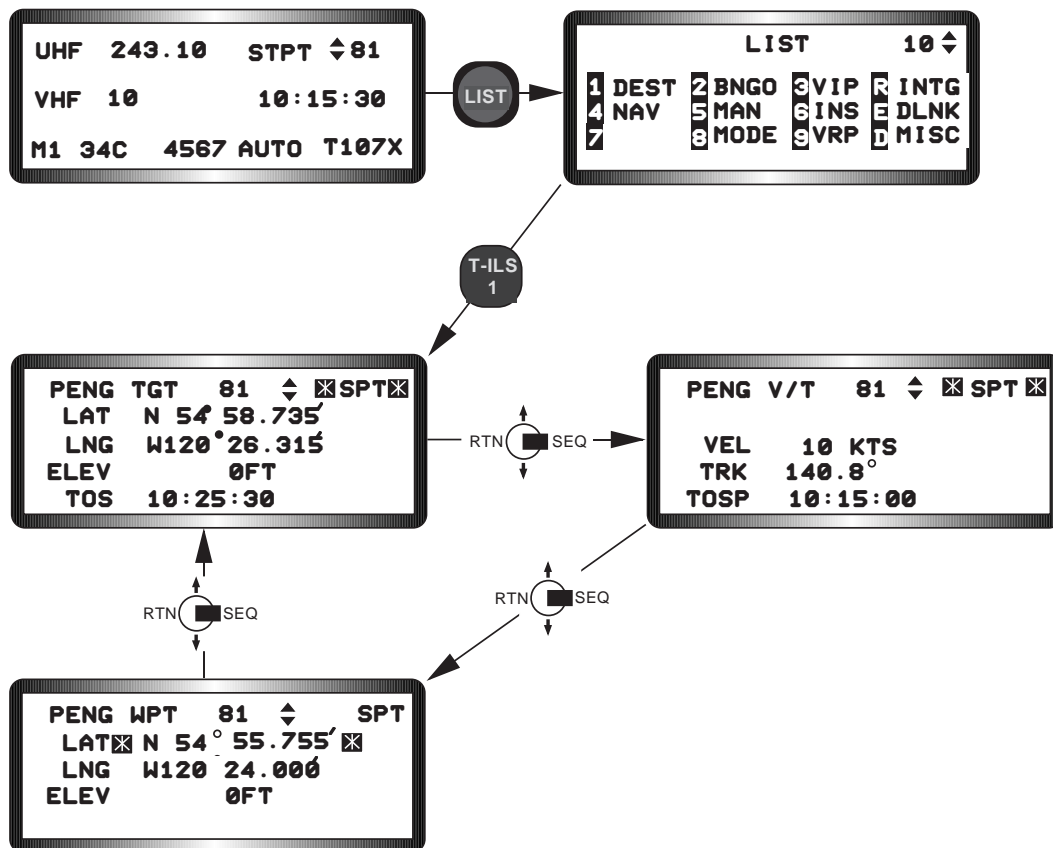

Figure 6-35 Penguin DED Pages
**Delivery Mode Selection.** The Penguin may be employed using one of three delivery options: Radar (RDR), HUD Direct (HUDD), and HUD Turn (HUDT). The delivery option may be selected or changed by depressing OSB 2 on the Penguin SMS or WPN page or by depressing the Z-axis of the cursor enable switch. The rotary sequence is RDR—HUDD—HUDT—RDR. The selected Penguin delivery option and corresponding mnemonic is displayed at OSB 2 on the Penguin SMS or WPN MFD page and in window 8 of the HUD (Figure 6-35). When the HUDT option is selected, OSB 20 on the SMS and WPN formats transitions from a blank condition to display a LEFT or RIGHT mnemonic. The mnemonic depicts the direction the missile will turn when reaching the HUD turn waypoint. Depressing OSB 20 toggles between the turn directions. Delivery mode selection is independent of the SMS or WPN page. If the delivery option is changed on one page it is automatically changed on the other.
**Waypoint Selection.** Each Penguin delivery option includes provisions for determining the position of the waypoint the missile will fly enroute to the target. There are two types of waypoints: Stored Waypoint (SW) and Auto Waypoint (AW). Stored waypoints consisting of latitude, longitude, and elevation are normally preprogrammed (stored) into the aircraft as part of the DTC load and may only be used for the Penguin radar and HUD turn delivery options. Auto waypoints consist of one of two distances along a line of sight from the target to the launching aircraft and may be used for all Penguin delivery options. AW distance values are stored in the missile launcher rail and the MMC. The distance value used for an auto waypoint is dependent on the currently selected missile field of view. The larger distance value is used wide FOV and the smaller value is invoked when the missile FOV is narrow or medium. OSB 19, on the SMS and WPN pages, is a two position switch that toggles the selection and display of the waypoint option. Waypoint selection is independent of the SMS or WPN page and, when changed on one page, is automatically changed on the other.
**Counter-countermeasures.** The AGM-119 is capable of employing maneuvering and IR filtering techniques as counter-countermeasures to Anti-Aircraft Artillery (AAA) and IR countermeasures decoys. The counter-countermeasures techniques can be selected (ON) or deselected (OFF) using OSB 8 on the WPN page.
**Penguin Radar (P-RDR) Option.** The P-RDR provides a blind attack capability using FCR radar ground mapping features to identify the target. The F-16 Data Entry/Computer Interface Set (DE/CIS) allows for storing of up to nine preplanned Penguin target and waypoint data sets in the UFC. The system dedicates steerpoints 81-89 as Penguin steerpoints (instead of DEST steerpoints) whenever a quantity (zero or more) of AG119s have been entered into the SMS stores inventory. Preplanned data is normally loaded into the aircraft from the DTC as part of the normal mission planning process. However, data may be manually entered, reviewed, or modified using the Penguin Target (PENG TGT) and Penguin (stored) Waypoint (PENG WPT) DED pages (Figure 6-35). To initiate a P-RDR attack, the pilot acquires the target on the FCR, refines the target and waypoint cursor positions as necessary, maneuvers to the desired launch conditions, and depresses the pickle button.